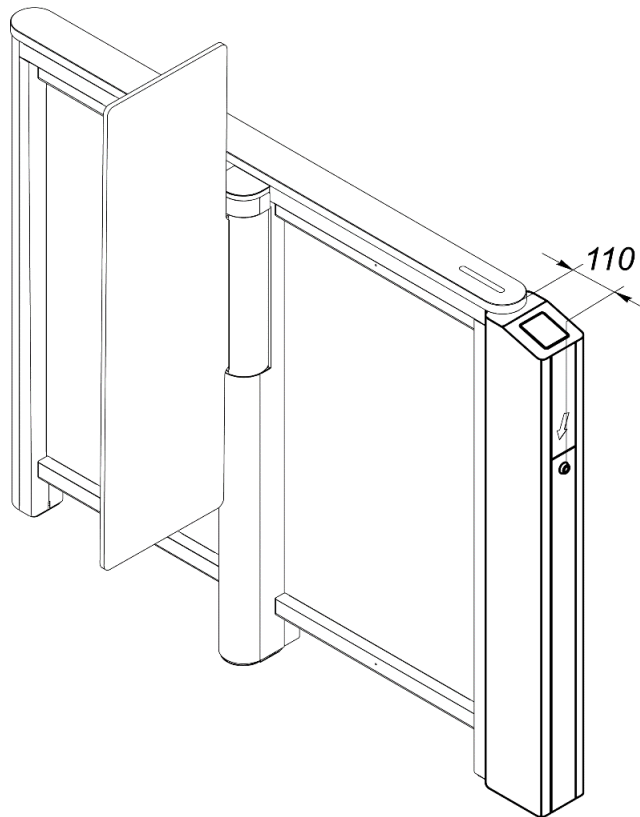
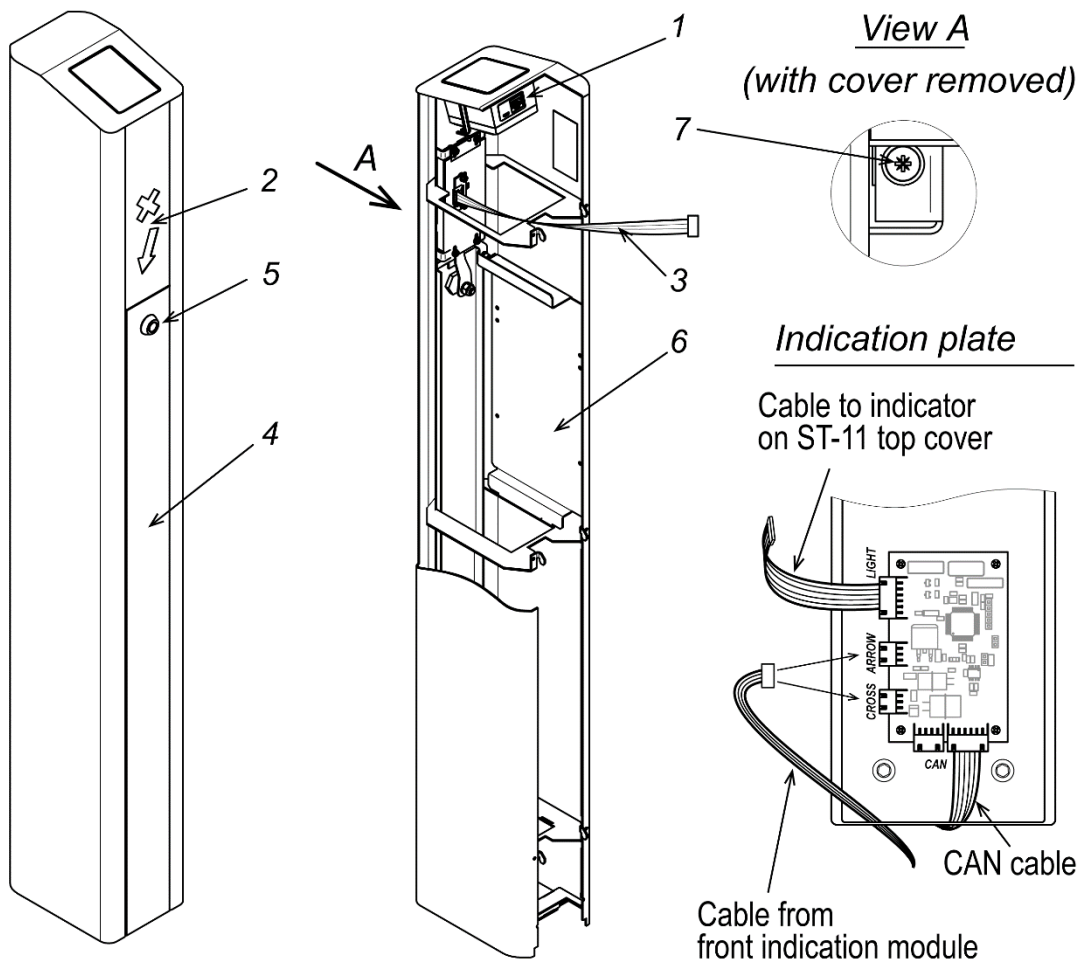

Figure 1. ST-11 section with installed FP-11Q.1 front panel
Figure 2. FP-11Q.1 front panel
ST-11 speed gate installation order – see in **ST-11 Assembly and operation manual**. It must be considered that overall length of a speed gate section with an installed **FP-11Q.1** panel increases for 110 mm (see Fig.1).
FP-11Q.1 front panel is to be installed on **ST-11** speed gate instead of a standard front panel of the section (see Fig. 1). Layout of **FP-11Q.1** front panel is shown on Fig. 2. Hereinafter item numbers are indicated according to Fig. 2.
3. Remove the indication plate from the front panel by unscrewing 4 screws securing it to the bracket inside the front panel. Fix the indication plate inside the upper box under the **ST-11** section top cover on 4 self-adhesive PCB pillars from the **FP-11Q.1** panel delivery set. Connect the CAN connecting cable to the indication plate (see Fig. 2).
4. Unpack the **FP-11Q.1** panel. Open the lock (5) of the front cover of the panel (4) using the supplied key and remove it. If needed install an ACS controller.
7. Using a cable (3), connect the front indication module (2) to the indication plate in the **ST-11** section. The procedure for connecting cables to the indication plate is shown in Fig. 2:
9. Reinstall the **ST-11** top cover, don't forget to connect the indicator cable of the artificial stone cover to the LIGHT connector of the indication plate (see Fig. 2).